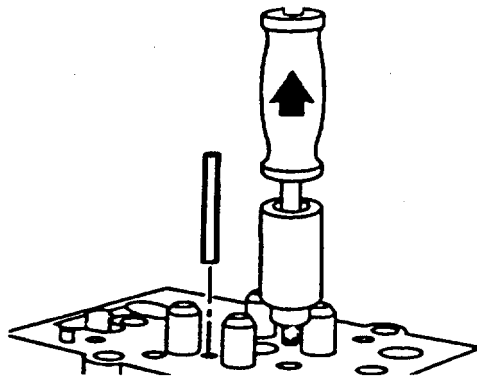

FIGURE 4-32. Crosshead Guide Removal.
(1) Remove crosshead guide with a dowel pin extractor (P/N ST-1134) FIG. 4-32.